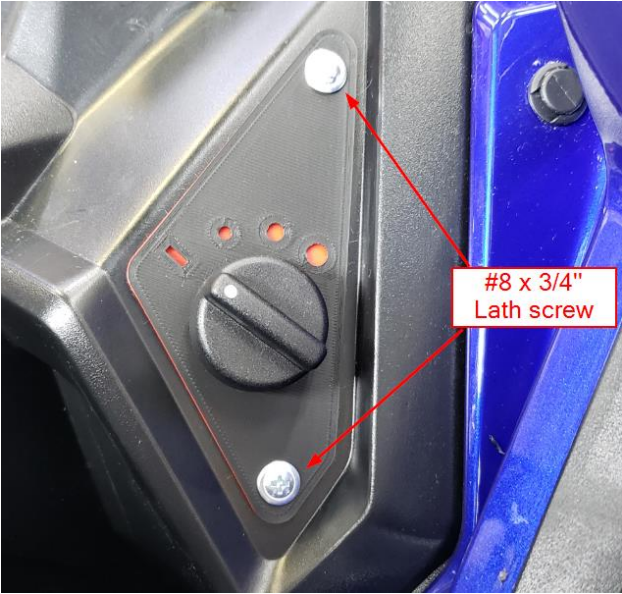

Figure 22
- b. Align the switch assembly with the dash feature and secure using the 2 #8 x 3/4" Lath screws. Do not over tighten. See Figure 22.